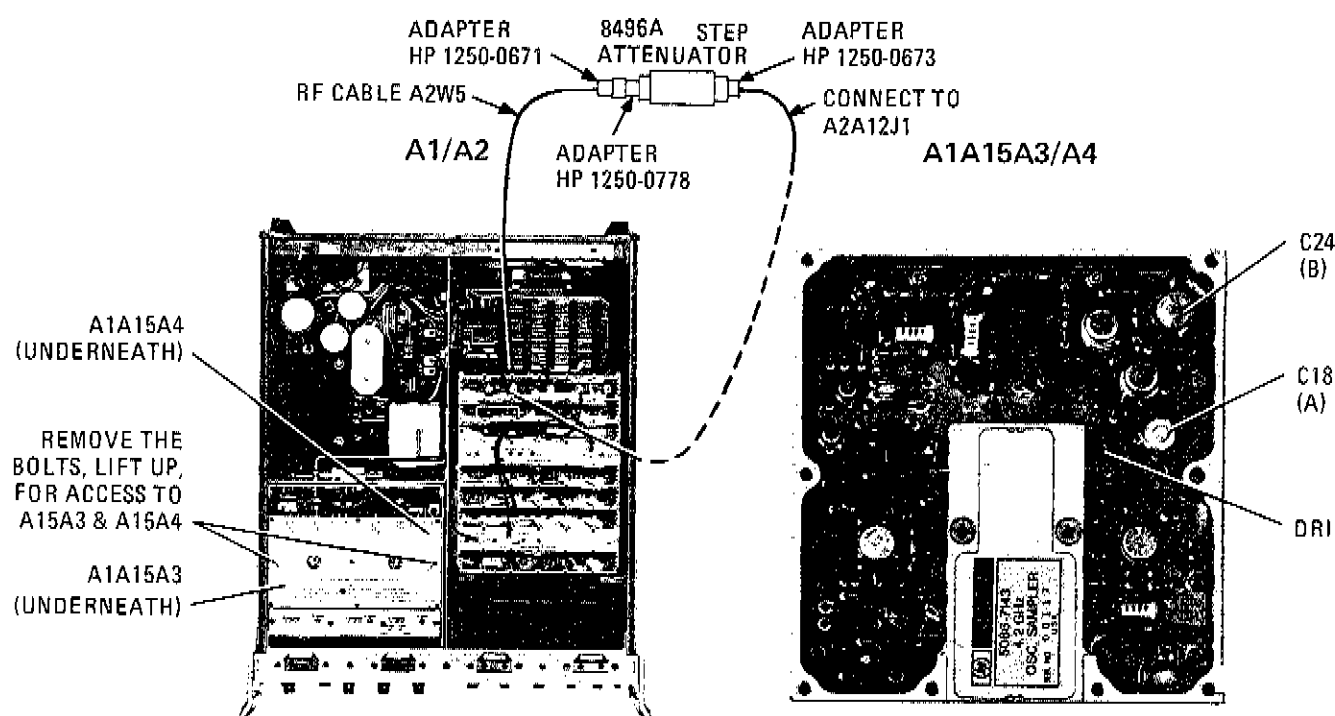

Figure A5-5. A1A15A3/A4 IF Driver Adjustment Locations
- c. Connect Spectrum Analyzer to 100 MHz output at test point "DRI" on A1A15A3. (See Figure A5-5.) Adjust "A" A3C18 and "B" A3C24 for highest amplitude 100 MHz signal. Replace cover.